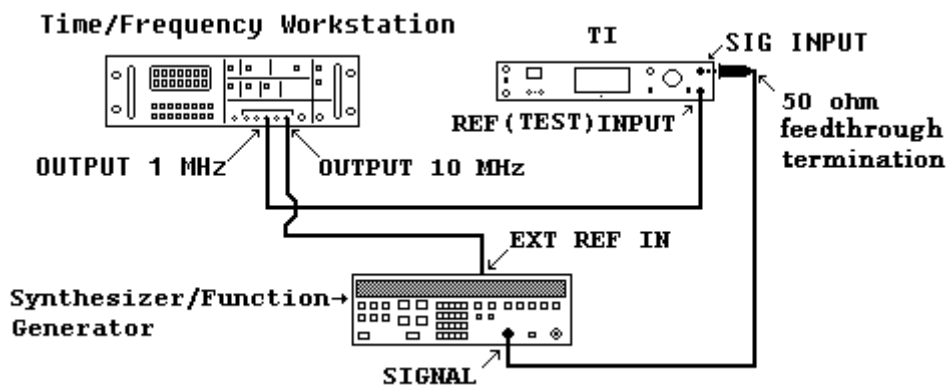

Figure 1. Frequency difference meter-equipment setup.
- (1) Connect equipment as shown in figure 1.